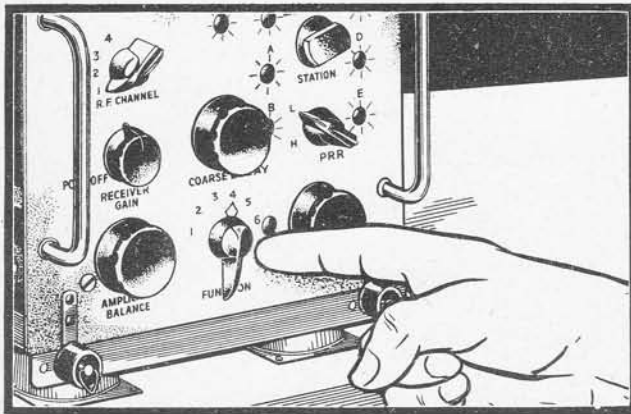

Figure 4-1
a. COUNTER INDICATIONS.—Figures 4-1 to 4-9 are receiver-indicator indications for correct timing, counter indications.